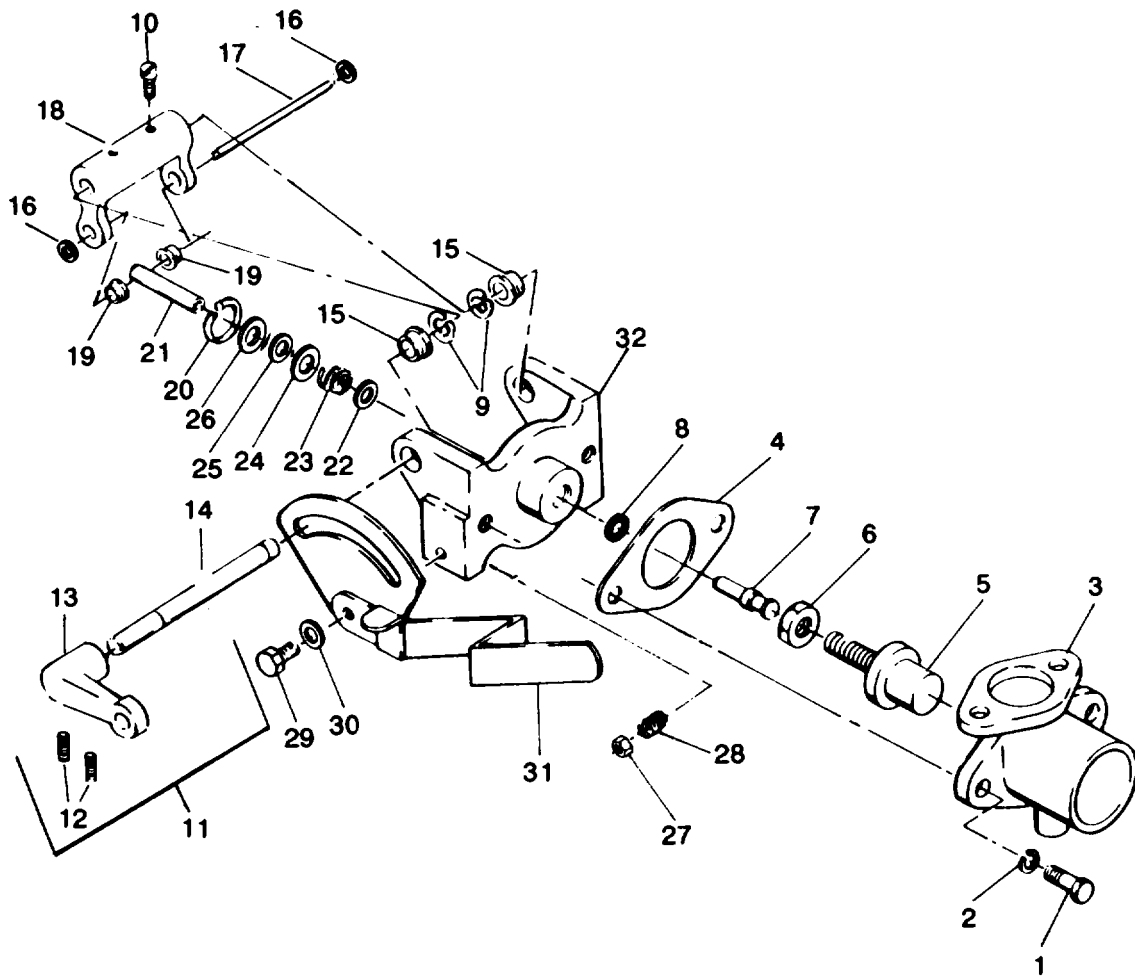

Figure 3-26. Shutter Control Assembly, Exploded View
- (1) Remove screws (1, figure 3-26) and lockwashers (2) to remove housing (3), gasket (4), thermostat (5), nut (6) and piston (7). Discard gasket.
- (2) Remove and discard packing (8).
- (3) Remove retaining rings (9) and loosen setscrews (10) to remove shaft assembly (11). Do not disassemble setscrews (12), cam (13) and shaft (14) unless inspection reveals damage.
- (4) Remove bushings (15).
- (5) Remove retaining rings (16) to remove shaft (17), lever (18) and bushings (19).
- (6) Remove retaining ring (20) to remove actuator pin (21) with assembled parts.
- (7) Remove retainer (22), spring (23) and washers (24, 25, and 26) from actuator pin.
- (8) Remove nut (27), spring (28), screw (29), and flat washer (30) to remove manual control arm (31) from flange (32).
- (1) Position flange (32, figure 3-26) to install manual control arm (31), flat washer (30), screw (29), spring (28) and nut (27).
- (2) Install washers (26, 25, and 24) onto actuator pin, spring (23), and retainer (22).
- (3) Install actuator pin (21), with assembled parts, and retaining ring (20).
- (4) Install bushings (19), lever (18), shaft (17), and retaining rings (16)
- (5) Install bushings (15).
- (6) If removed, install shaft (14), cam (13), setscrews (12). Position shaft assembly (11) and tighten setscrews (10), and install retaining rings (9).
- (7) Install new packing (8)
- (8) Install piston (7), nut (6), thermostat (5), new gasket (4), onto housing (3), with lockwashers (2) and screws (1).